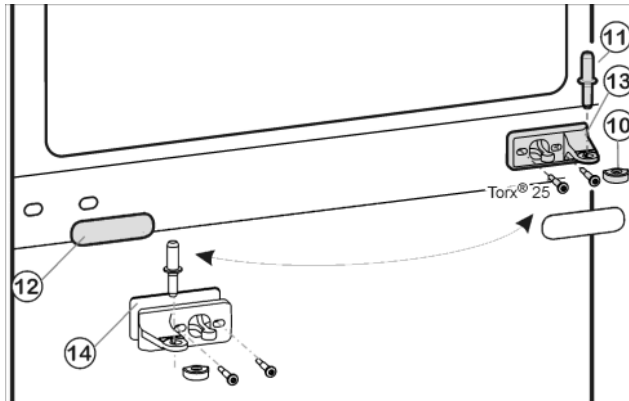

Fig. 9
- Remove central bearing bolt Fig. 9 (11) from mounting block and from lower door.
- Remove plastic cap Fig. 9 (10).
- Unscrew and remove central mounting block Fig. 9 (13) (2x Torx® 25).
- Carefully remove the safety cover Fig. 9 (12).
- Bolt central mounting block Fig. 9 (13) to base Fig. 9 (14), rotated through 180° firmly to side of new hinge (with 4 Nm).
- Reattach the safety cover Fig. 9 (12) rotated through 180° to the side of the new handle.
- ▶ Re-install the plastic cap *Fig. 9 (10)* on the central mounting block *Fig. 9 (13)*.
- ▶ Install central bearing stud *Fig. 9 (11)* on new hinge side in the lower door through the central mounting block *Fig. 9 (13)*.